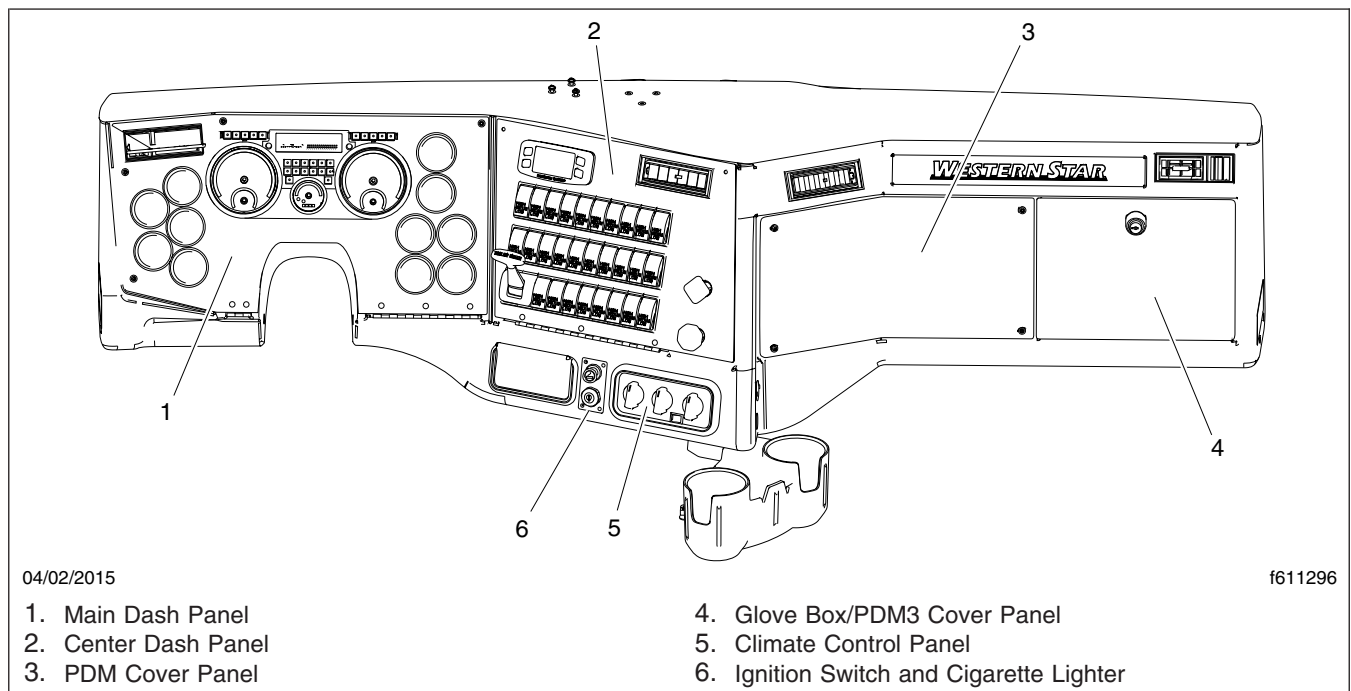

Fig. 9, Dash Panel Layout
2. Remove the right-hand side glove box/PDM3 cover panel, shown as item #4 in **Fig. 9**. For instructions, see **Section 60.06** of the *4700/5700/4900/6900 Workshop Manual*.